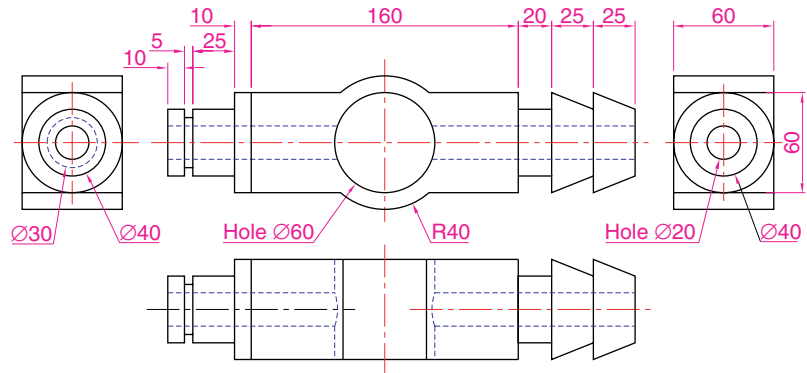

Fig. 19.21 Second example – dimensions
1. ***WORLD*** (Fig. 19.21). Construct polyline outlines for the body extrusion and the solids of revolution for the two end parts. Extrude the body and subtract its hole and using the **Revolve** tool form the two end solids of revolution.